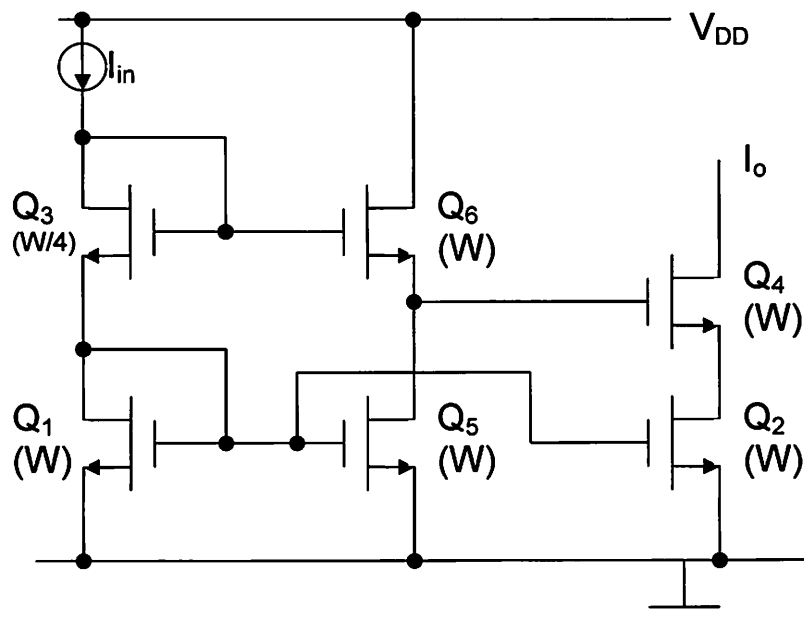

Figure 5.1
- (b) For the current mirror of Figure 5.1 derive the voltage swing in terms of device threshold voltage V_T , clearly stating any assumptions you make. [7]